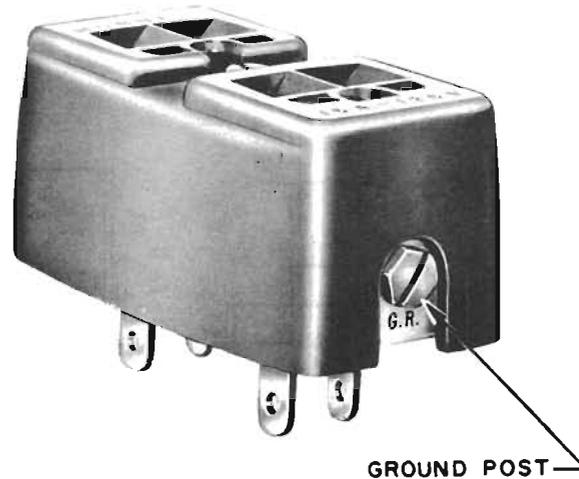

Fig. 9 – BL-12433 Adapter
10.01 A Hubbell No. BL-12433 adapter must be used with 3-conductor power cords where 2-conductor receptacles are used (see Fig. 9).
10.02 The Hubbell adapter also provides a frame ground for the power plant or rectifier. If the power receptacle is not grounded, a local ground must be terminated on the ground post of the adapter. (See Fig. 9.)